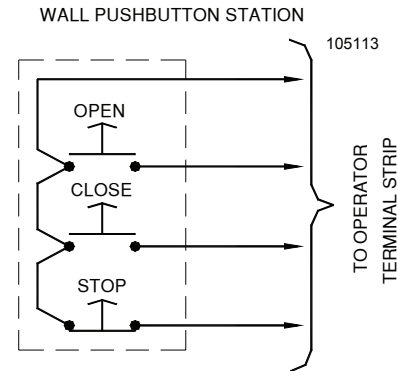
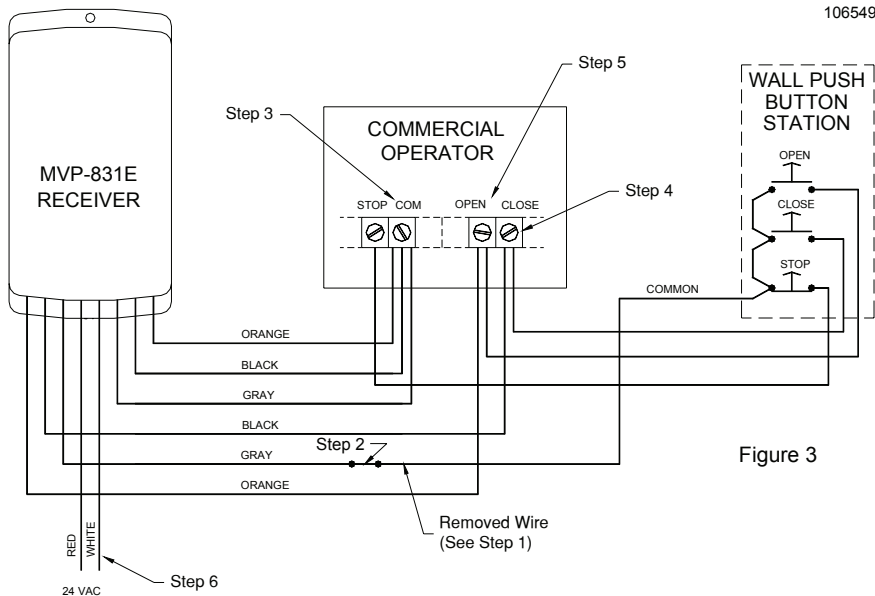

Figure 2
Figure 3
Typical 4-wire 3-button stations are wired as shown in Figure 2. Number 18 gauge wire or heavier must be used for wiring the control stations and the MVP-831E receiver to the door operator. Smaller gauge wire may cause operational problems, especially when multiple 3-button stations are used. For typical installations the MVP-831E receiver is mounted near the door operator, away from any high voltage conduits or steel support beams. For wiring, follow the steps below and refer to Figure 3.
3. Connect the following wires from the MVP-831E to the operator 3-button COMMON (as shown in Figure 3):
- Check the wire & connections in the STOP circuit. Refer to Figure 3.